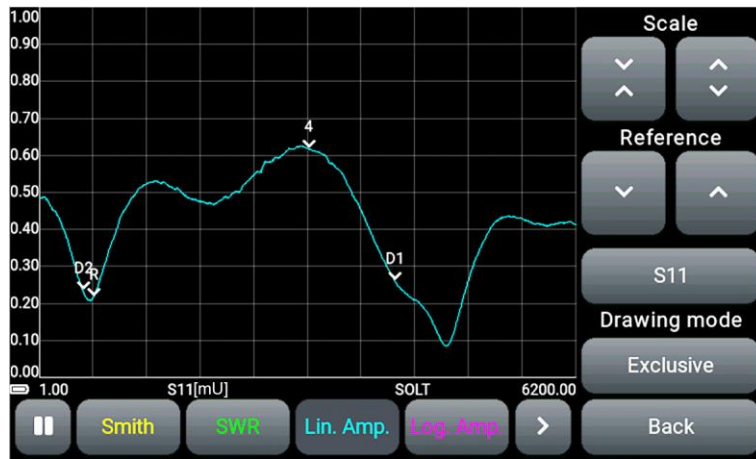

Figure 9.18 - Plot display settings
9.10.5. To configure the plot display, click **Settings**. The menu appears on the screen as shown in Figure 9.18.